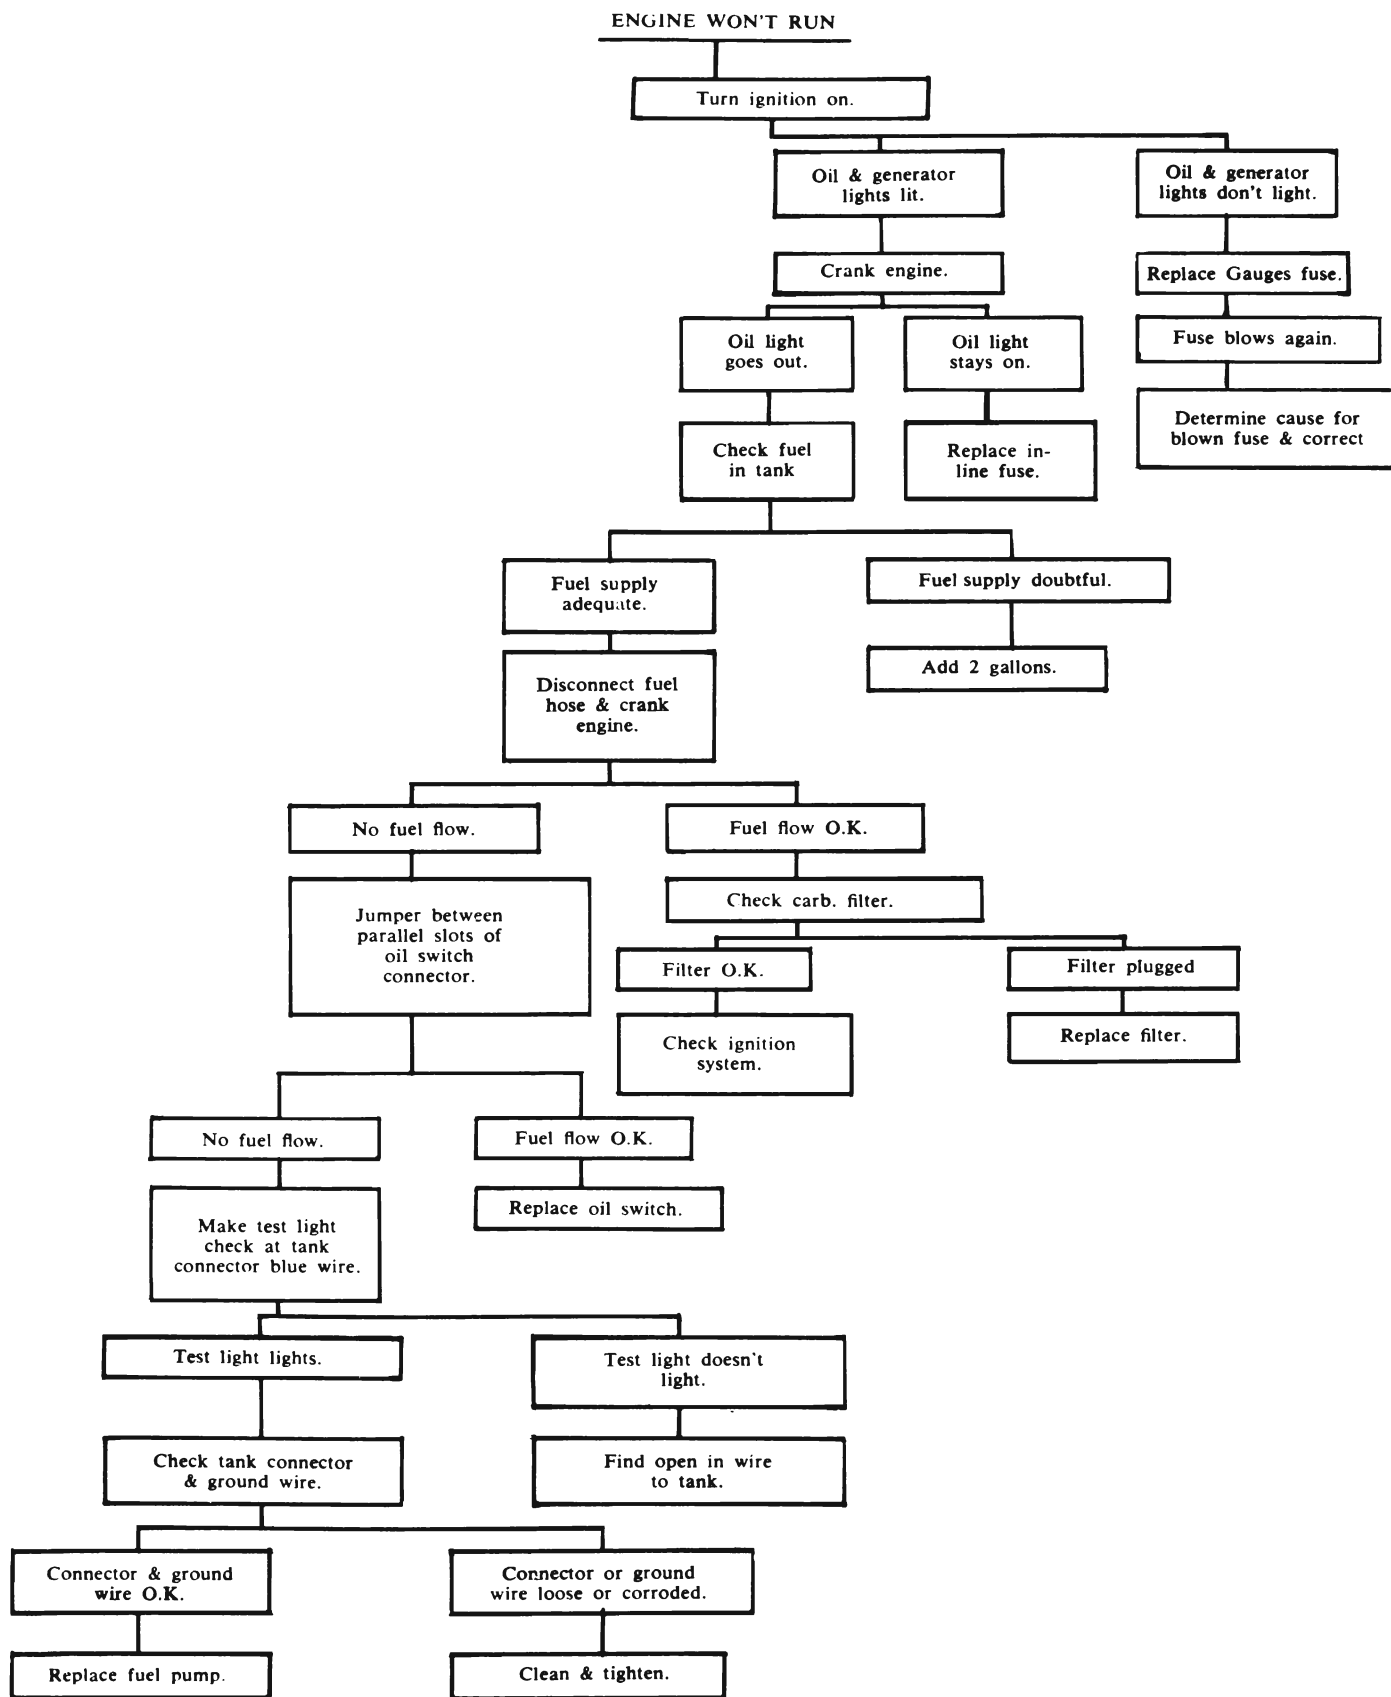

Figure 64-12 - Electric Fuel Pump Trouble Diagnosis
**c. Engine Won't Run (Electric Fuel Pump) (See Figure 64-12)**